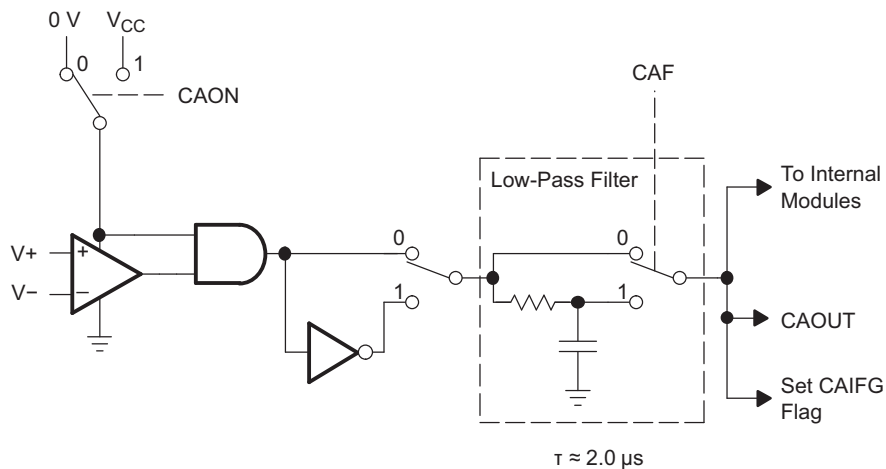
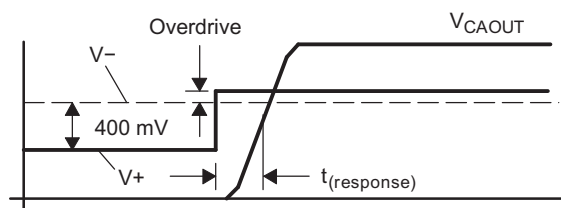

Figure 24. Comparator\_A+ Module Block Diagram
Figure 25. Overdrive Definition
| t (response)            | Response time(low-high and high-low)  | T A = 25°C, Overdrive 10 mV,Without filter: CAF = 0 (3)(see <a href="#">Figure 24</a> and <a href="#">Figure 25</a> ) | 2.2 V | 80   | 165                 | 300  | ns |
|                                    |   | T A = 25°C, Overdrive 10 mV,With filter: CAF = 1 (3)(see <a href="#">Figure 24</a> and <a href="#">Figure 25</a> )    | 2.2 V | 1.4  | 1.9                 | 2.8  | μs |